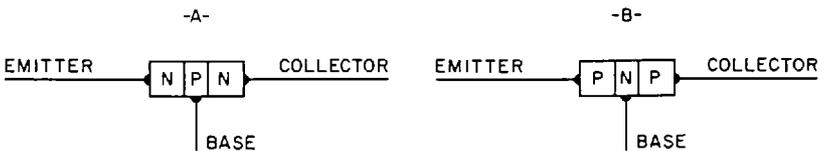

Fig. 28-8. A—The NPN transistor.
**The Junction Transistor.** The *junction transistor* is made by sandwiching a thin semiconductor region between two regions of opposite charge. Thus we may have an NPN transistor or a PNP transistor. One of the outside regions is called the *emitter*, the other the *collector*. The middle region is called the *base*. See Figure 28-8.